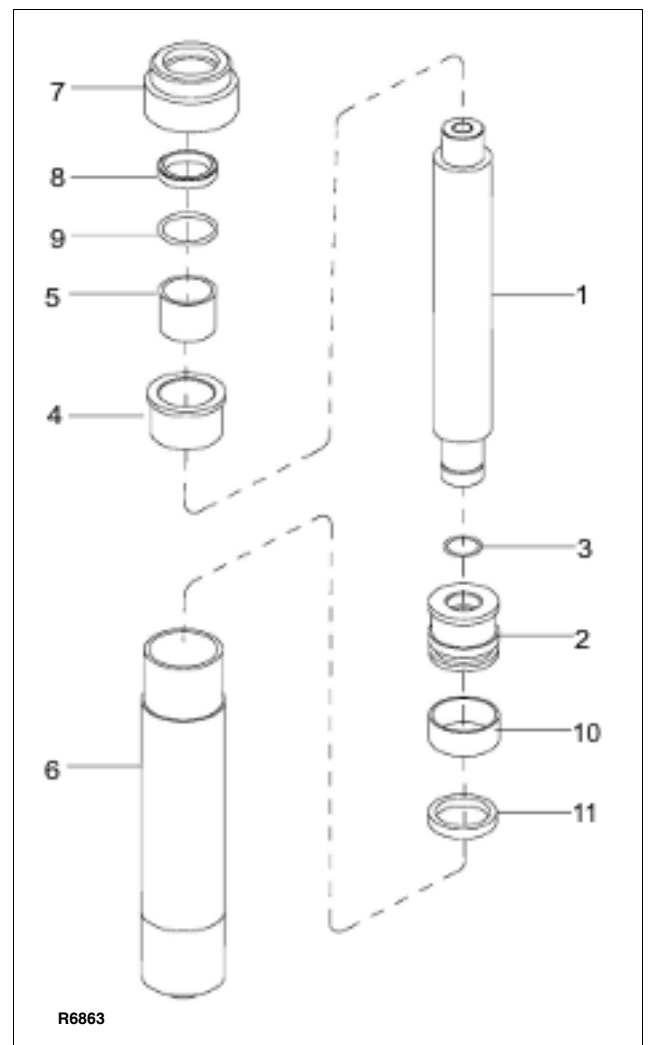

Figure 9-4 Lift Cylinder (Mono)
2. Remove gland nut (7, Figure 9-4).
3. Remove wiper ring (8) and O-ring (9) from gland nut (7).
4. Pull out piston rod (1).
5. Remove bearing (5) and bushing (4).
6. Remove piston (2) and O-ring (3) from rod (1).
7. Remove guide ring (10) and seal (11) from piston (2).
9. Install guide ring (10) and new seal (11) on piston (2).
10. Install new O-ring (3) on rod (1).
11. Install piston (2) on rod (1).
12. Install bearing (5) and bushing (4).